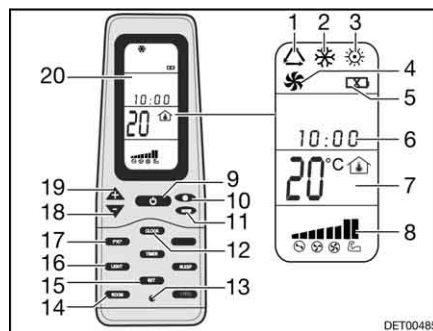

Fig. 171 Remote control
- Press the ON/OFF button (Fig. 171,9).
- Press the "Mode" button (Fig. 171,11) as often as required until the required mode (Fig. 171,1, 2, 3 or 4) is indicated on the display (Fig. 171,20).
- Use the "+" (Fig. 171,19) and "-" (Fig. 171,18) buttons to set the desired temperature.
- Use the fan speed button (Fig. 171,10) to select the desired fan level.